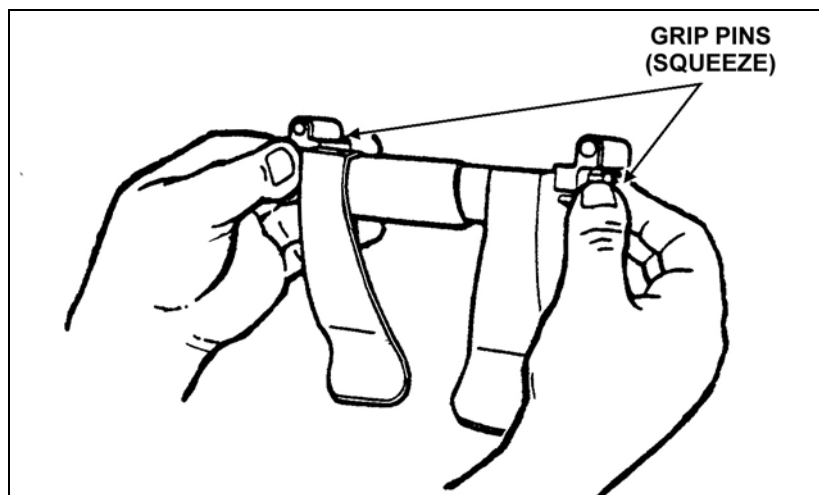

Figure 3-11. Grip pins.
- (1) Squeeze together each set of grip pins (Figure 3-11).